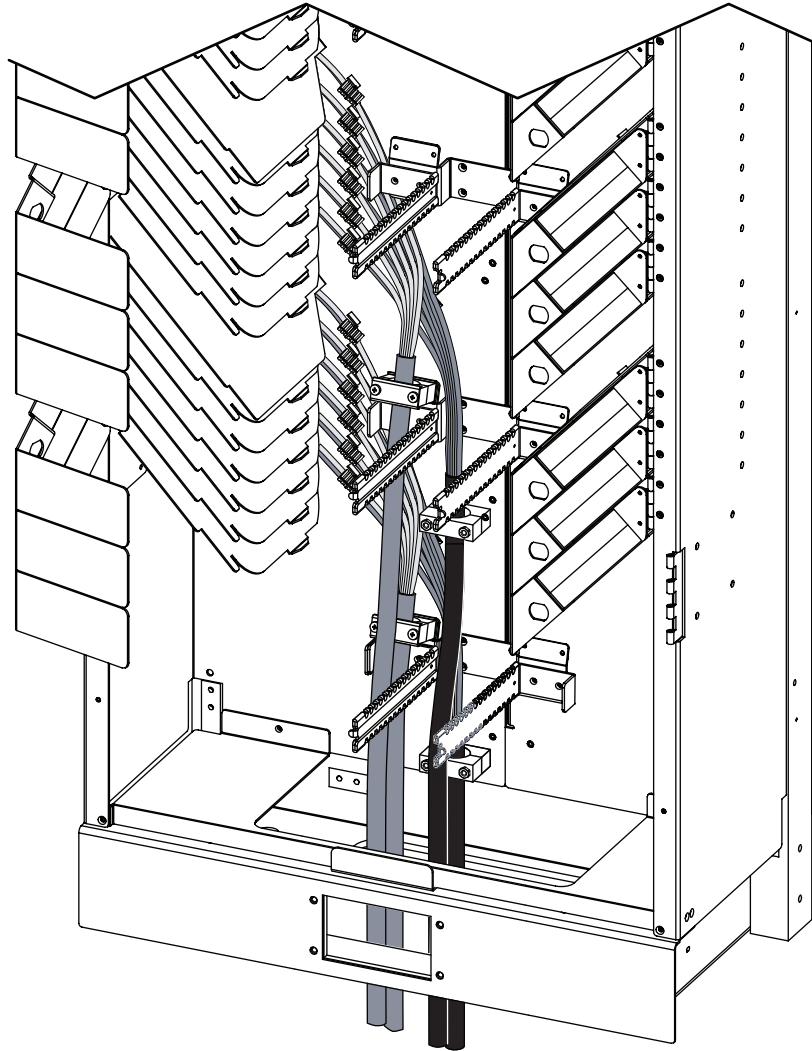

Figure 9. Second OSP and IFC Cable Routing Procedure
3. Route second OSP and IFC cable, respectively, as shown in Figure 9.